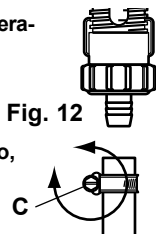

Fig. 12
- Unscrew the nut (**Fig. 12-C**) at the bottom of the injection assembly and put it onto the tube.